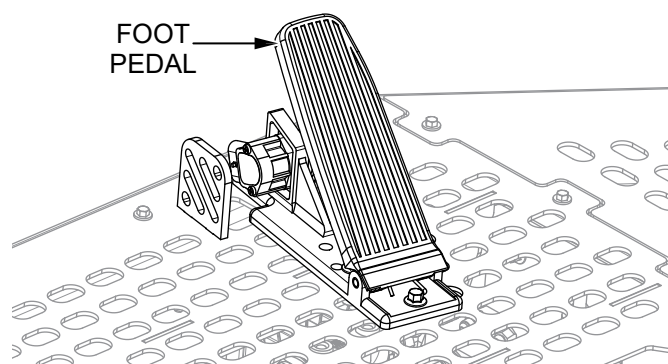

Figure 22. Foot Pedal
The **foot pedal** (Figure 22) controls engine and rotor speed. The position of the foot pedal determines the rotational speed of the rotors. Slow rotor speed is obtained by slightly depressing the foot pedal. Maximum rotor speed is obtained by fully depressing the foot pedal.
- Start the engine and depress the **foot pedal** (Figure 22) to increase rotor speed to the desired speed.